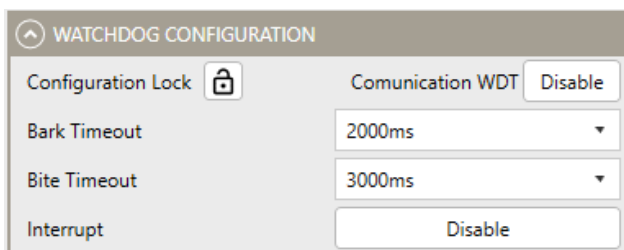

Figure 15: Watchdog Configuration
7. Figure 15 shows the Watchdog Configuration settings in the GUI.